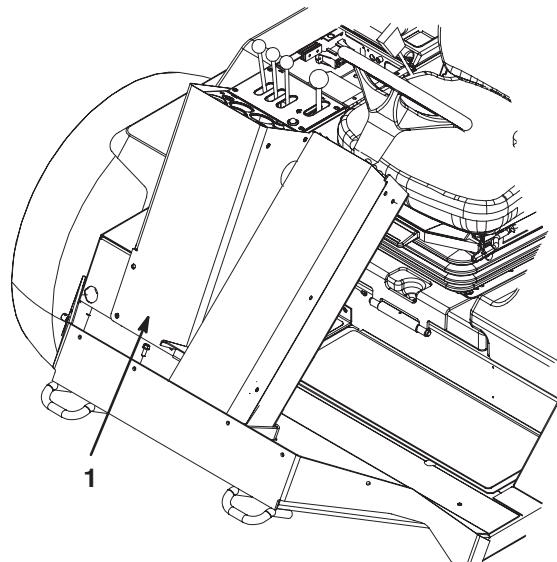

Figure 13
2. Remove the cover from the control housing (Fig. 13).